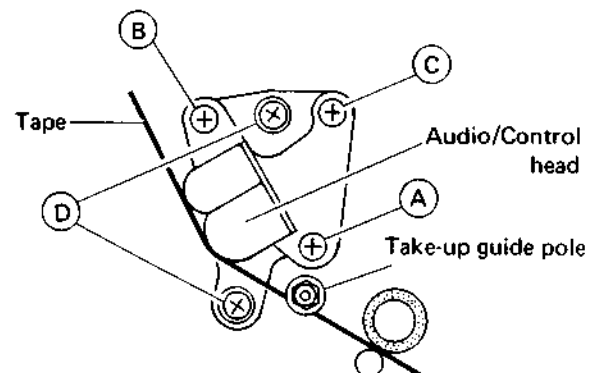
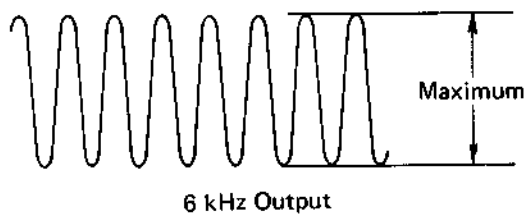

Fig. 5-6 A/C head adjustment-1
Fig. 5-7 Audio output level
2. Turn audio/control head screw (C) (Fig. 5-6) and adjust for smooth transport at the take-up guide pole. Do not adjust the height of the take-up guide pole itself.
2. Turn screws A, B and C (Fig. 5-6) in succession by small and equal increments at a time and adjust for maximum audio output level as shown in Fig. 5-7. With reference to screw A, adjust azimuth with screw B and adjust screw C so that small tape wrinkles at not produced at the guide poles, but at the same time, audio output becomes maximum and level fluctuations minimum. It is suggested to first turn screw A by a small amount, then turn screws B and C by an equal amount and set for maximum output.